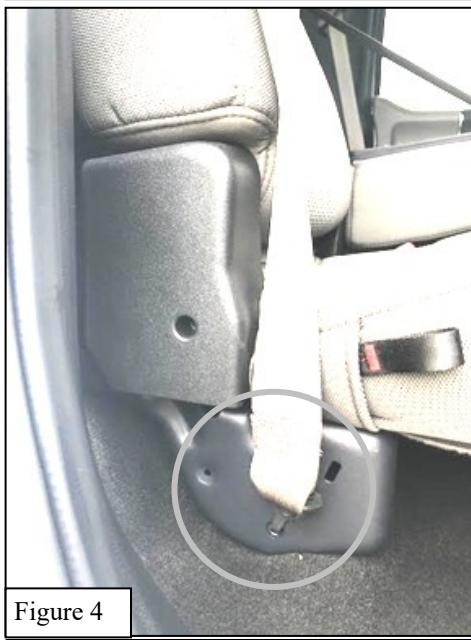

Figure 4
4. Unscrew factory seatbelt bolts on outside of seat, both passenger and driver side. Figure 4.
11. Install belt through provided slot in seat cover side wall (be sure seat belt is not twisted) And reattach previously removed factory seat belts and screws. Figures 4 and 14.